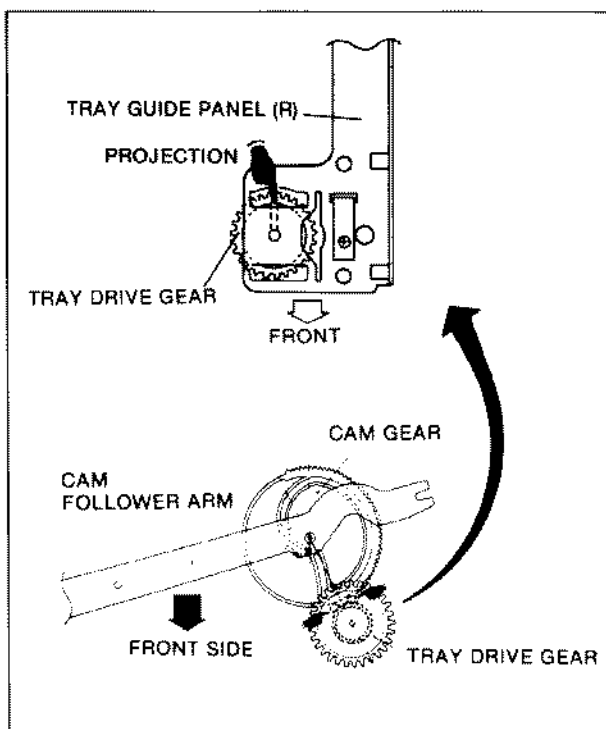

Fig. R12
- This should be installed first, set the Tray Guide Plate (R) to Rack Plate (R) so that the Projection (Q) and (R) of Tray Guide Plate (R) meets (K) and (H) of Rack Plate (R). Turn the Tray Drive Gear clockwise so that the projection of Tray Drive Gear set to center as shown in Fig. R12.